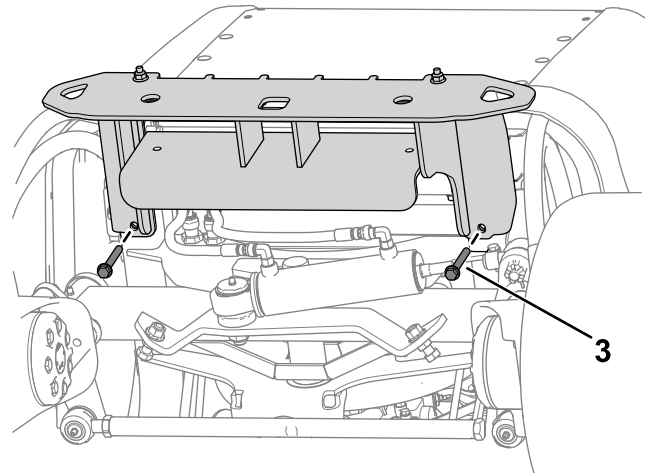

Figure 14
- Use 4 bolts (3/8 x 3-1/4 inches) and 4 nuts (3/8 inch) to secure the upper area of the bumper to the machine frame (Figure 14).
- Use 2 bolts (3/8 x 2-3/4 inches) and 2 nuts (3/8 inch) to secure the bumper under the machine frame (Figure 14).